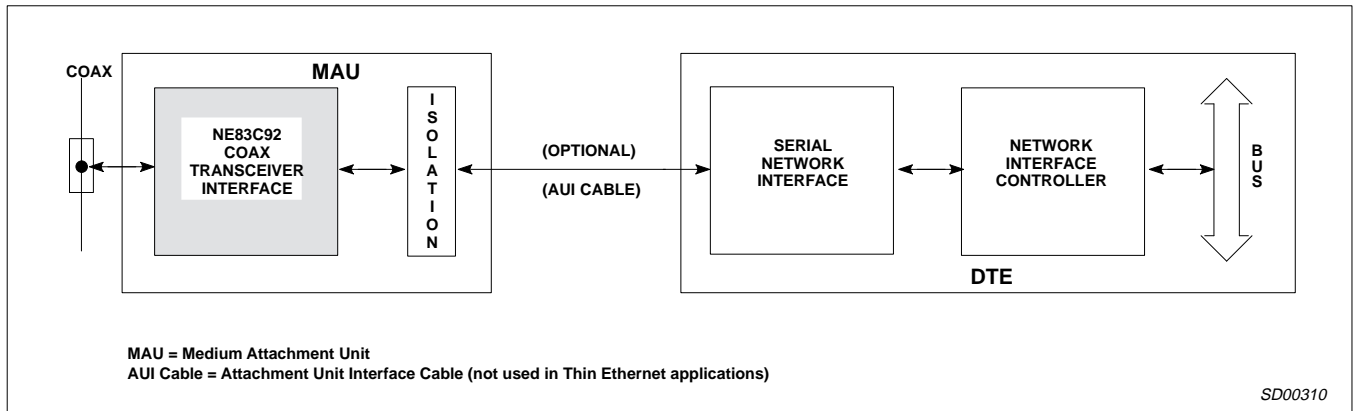

Figure 2. Interface Diagram for Ethernet/Thin Ethernet Local Area Network
- Measured on secondary side of isolation transformer (see Figure 2). The transformer has a 1:1 turn ratio with an inductance between 30 and $100\mu\text{H}$ at 5MHz.